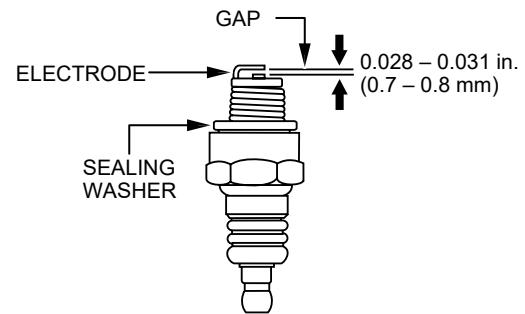

Figure 34. Engine Spark Plug
4. Inspect the **spark plugs** (Figure 34). Replace the spark plugs if they are damaged or badly fouled, if the **sealing washer** is in poor condition, or if the **electrode** is worn.
5. Measure the spark plug **electrode gap** (Figure 34) with a wire-type feeler gauge. If necessary, adjust the gap to 0.028–0.031 in. (0.7–0.8 mm) by carefully bending the side electrode.